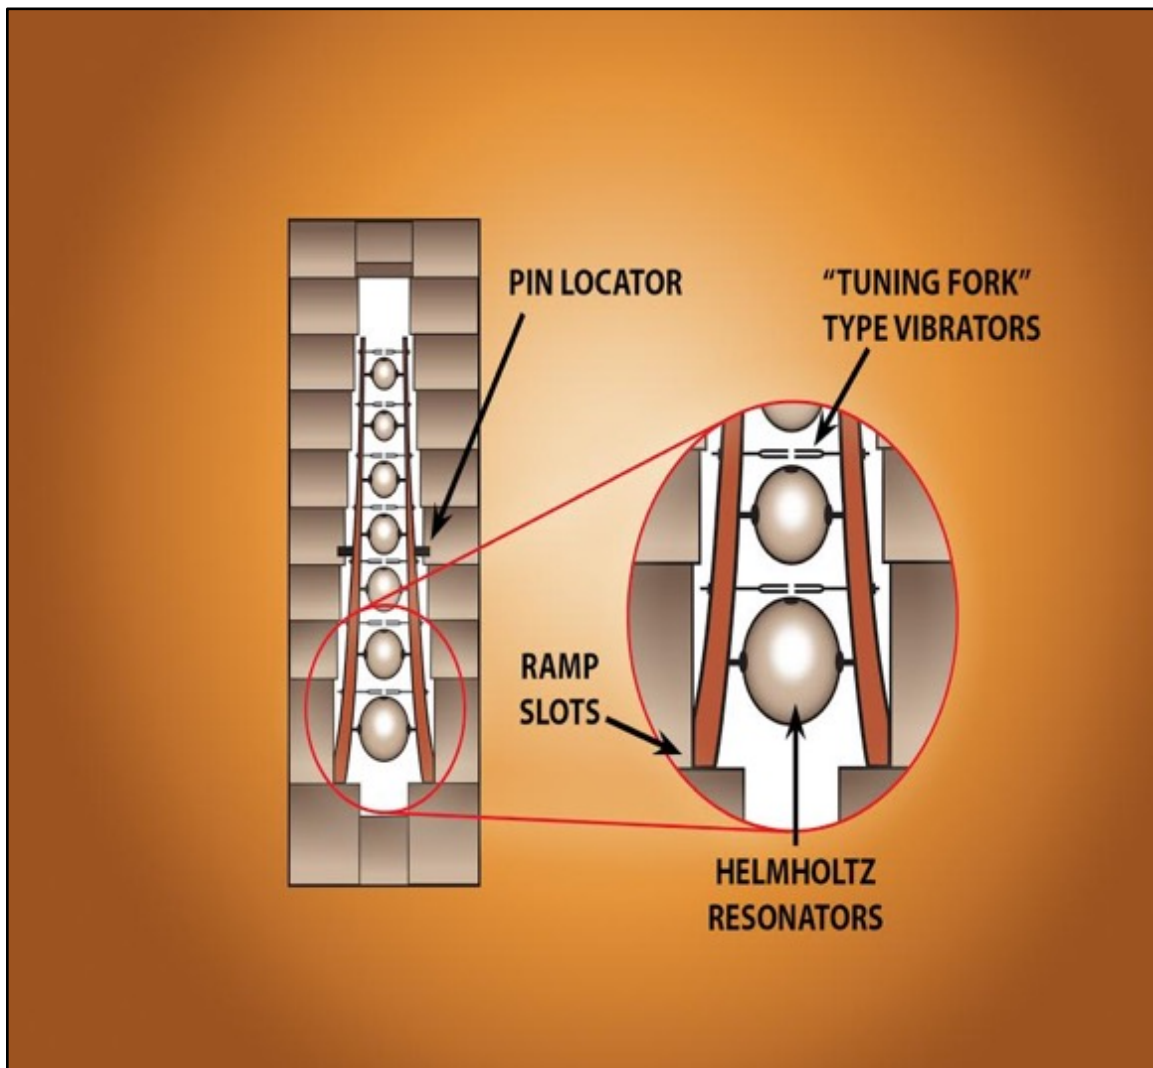

Figure 12. Resonator Assemblies
- The Grand Gallery was not only specifically designed to direct the Earth's frequencies upward into the Antechamber and then into the King's Chamber, but based on speculative remaining evidence, it is believed the Grand Gallery also had *resonators* installed (remember the slots in the opposing side ramps, grooves in the walls above the slots in the ramps and the ratchet style ceiling in Figure 6) to amplify and convert lower frequencies into the appropriate frequencies, directing them to the Antechamber/King's Chamber (Figure 12)